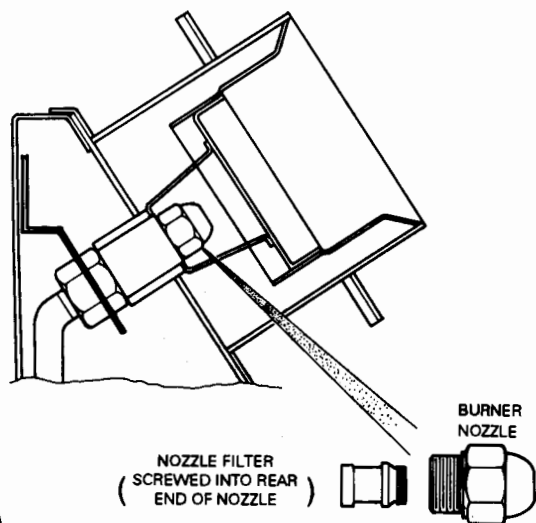

Fig.12 BURNER NOZZLE AND NOZZLE FILTER
4.1.1 To Replace Burner Nozzle (see fig 12)
4.1.2 To Clean Burner Nozzle Filter (see fig 12)